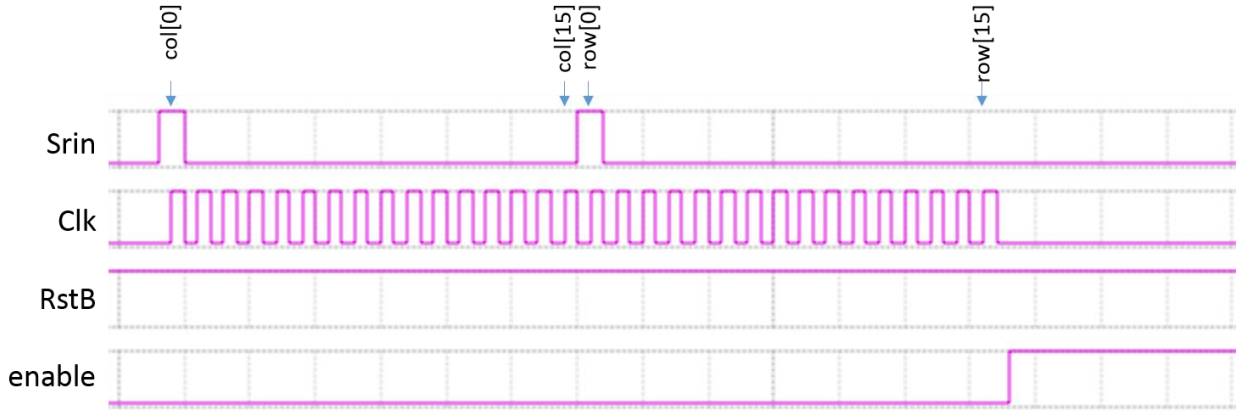

Figure 4: Position of row[15:0] and col[15:0] pixels in the SR load sequence.
- Corrected Fig.4.
The position of the cols and rows (cf. Fig.1) in the SRin data stream are specified in Fig.4: the first bit selects col[0], while the last selects row[15].